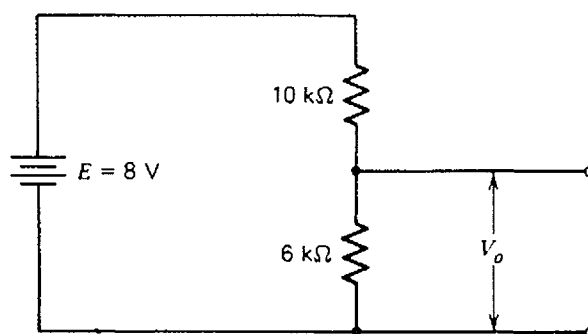

FIGURE 2-36 Circuit for Problem 2-11.
- 2-11** A voltage reading is to be taken across the $6\text{-k}\Omega$ resistor in the circuit of Fig. 2-36. A voltmeter with a sensitivity of $10\text{ k}\Omega/\text{V}$ is to be used. If the instrument has ranges of 1 V, 5 V, 10 V, and 100 V, what is the most sensitive range that may be used to obtain a reading having less than 3% error owing to voltmeter loading?